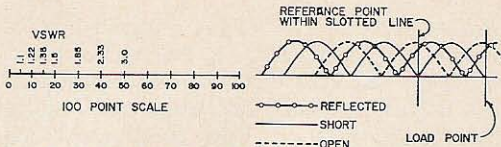

Fig. 5, Left. VSWR scale. Fig. 6, Right. Impedance measurements.
An even simpler method is to set the meter to full scale (100) at the highest reading, and reading the VSWR directly from Fig. 5.
Or set E_1 to 100 by adjustment of R, then E_2 would read 25 on the meter, a VSWR of 1.66 by Fig. 5.